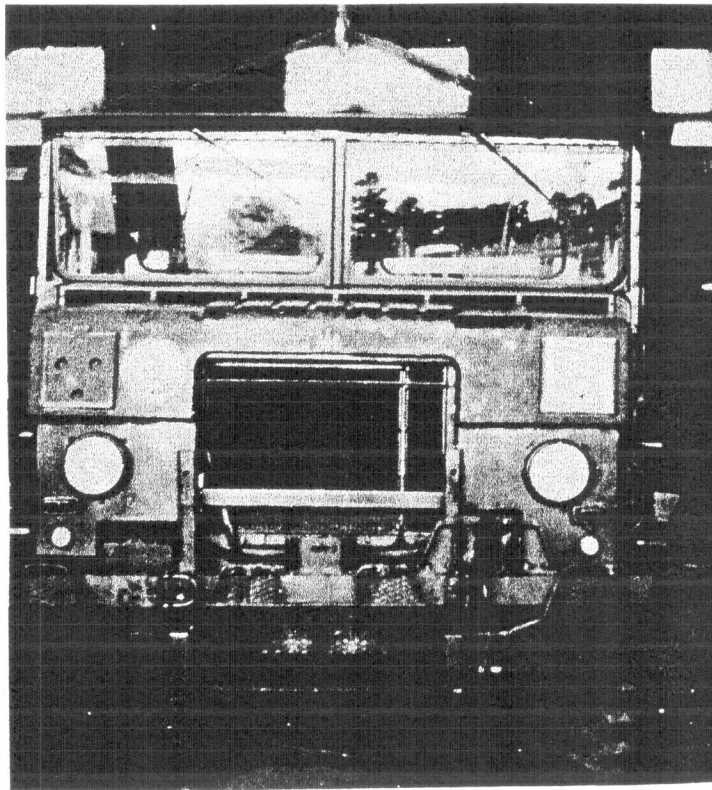

FIG. 1 - LIFTING BOARD AND SLING POSITIONED IN CAB - FRONT VIEW
48. Locate a board of suitable strength through cabin and attach a sling (fig 1). Adjust hook and lifting sling and keep cab as level as possible when lifting (fig 2). During lifting move steering column shaft to a vertical position.